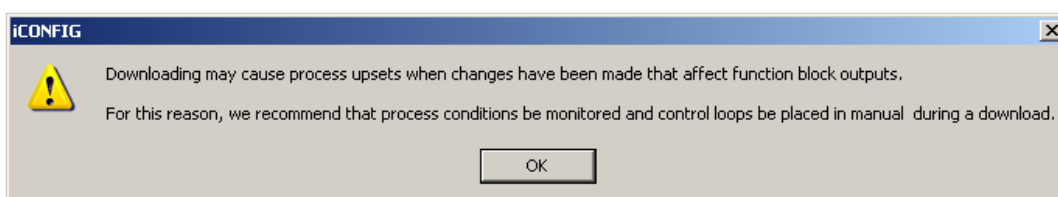

Figure 5-3 Download caution message
2. Select **File > Download > Current Station Configuration**. The download caution message in Figure 5-3 will appear. Read the message, click **[OK]**, and take appropriate steps to avoid a process upset. Note that the configuration downloaded in step 5 will become the active configuration in the selected controller.